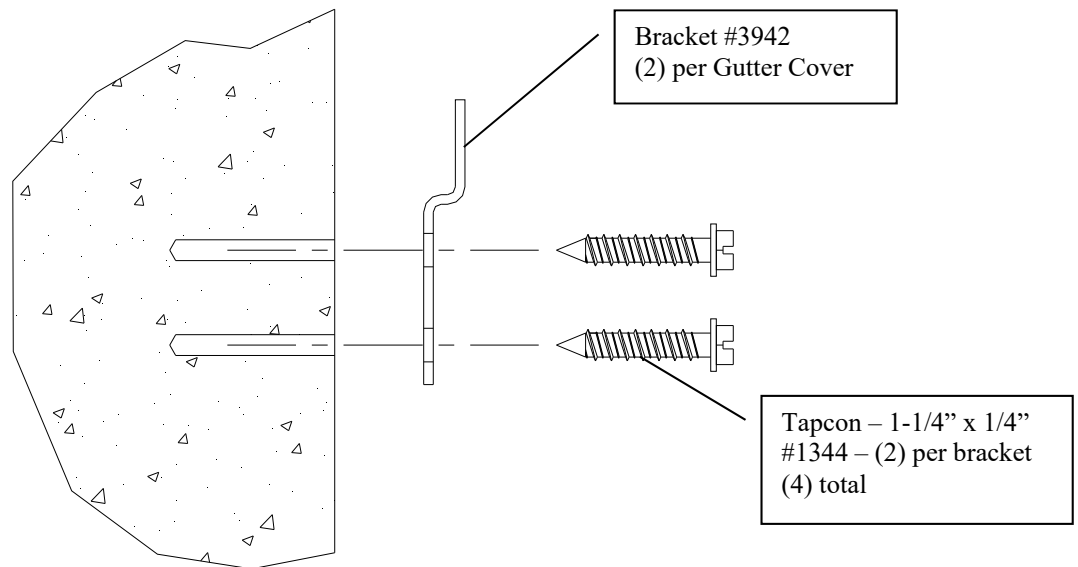

Figure 3.
- Using a 3/16" drill bit, drill (2) holes at least 1-1/4" deep through the marks made in Step 2.
- Attach the brackets to wall using 1/4" x 1-1/4" hex head Tapcon screws (supplied) through the mounting holes in the support brackets. See Figure 3.